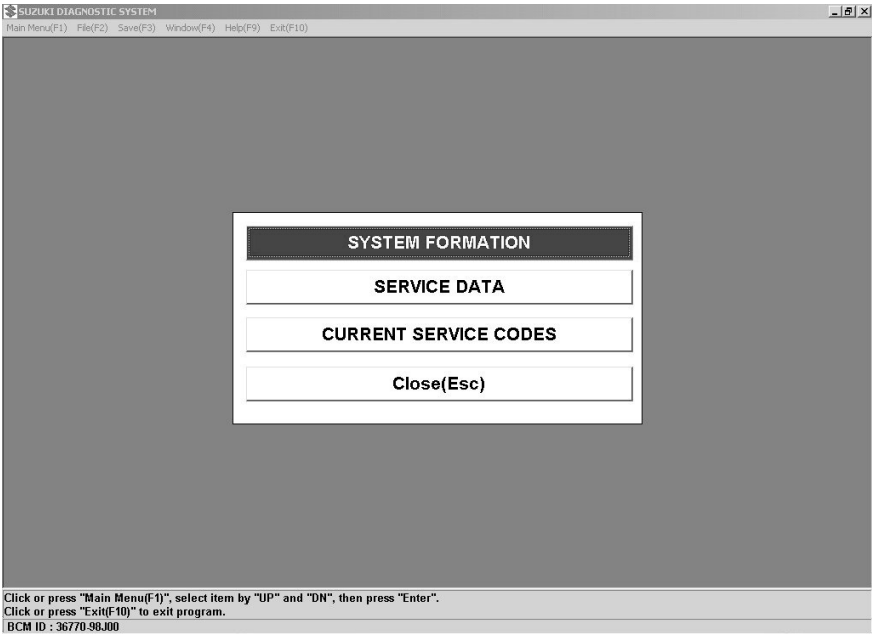
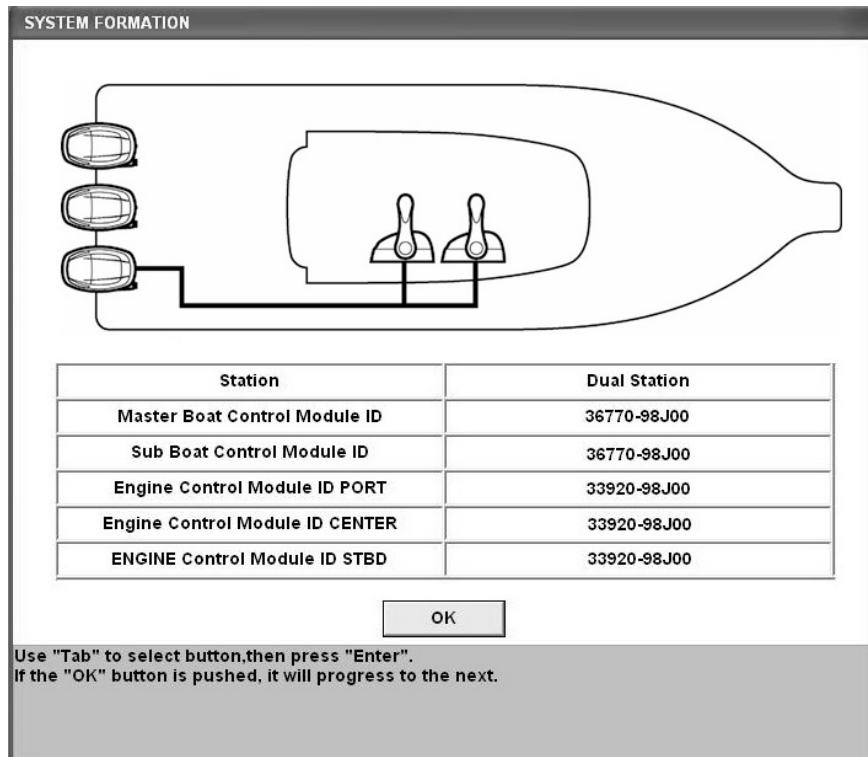
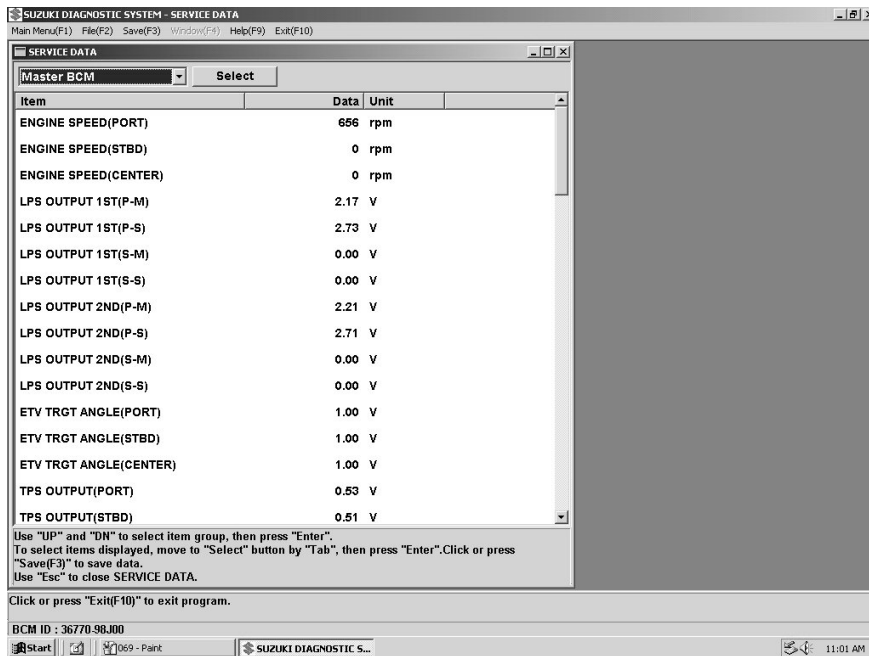
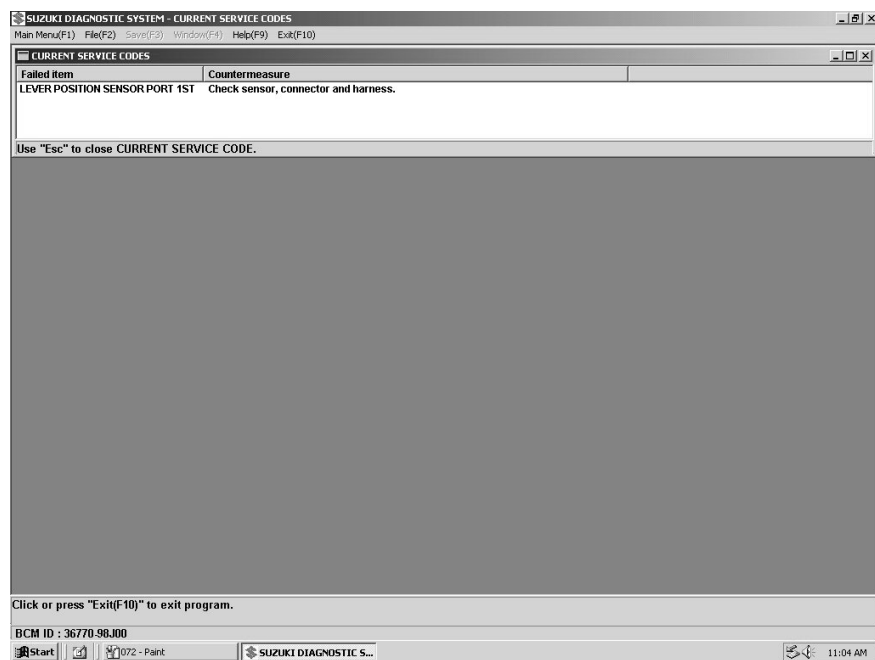

Fig.107
Fig.108
Fig.109
Fig.114
1. Clicking the “SYSTEM CHECK” button from the Main Menu dialog box (Fig.85) displays the following menu window. (Fig.107)
2. Clicking the “SYSTEM FORMATION” button from the menu window (Fig.107) displays the window. (Fig.108)
3. Clicking the “SERVICE DATA” button from the menu window (Fig.107) displays the window. (Fig.109)
1. Clicking the “CURRENT SERVICE CODE” button from the menu window (Fig.107) displays the window. (Fig.114)